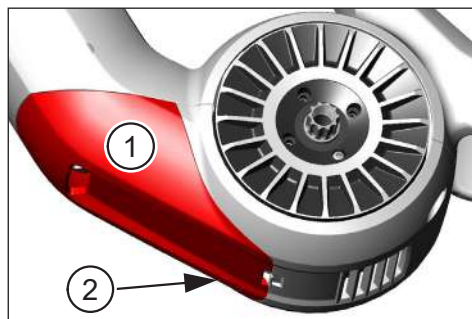
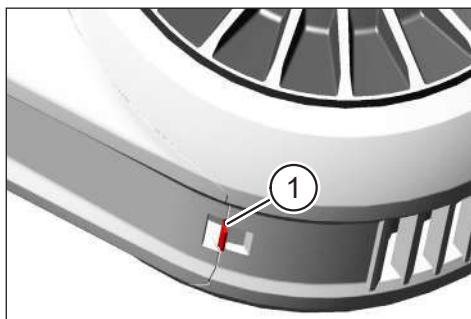

Fig. 21: Pressing the SkidPlate
Fig. 20: Catch spring on SkidPlate
- ▶ Press the SkidPlate (No. 1 in Fig. 21) firmly in place at the lower end (see No. 2 in Fig. 21). The catch spring (No. 1 in Fig. 20) must engage audibly.